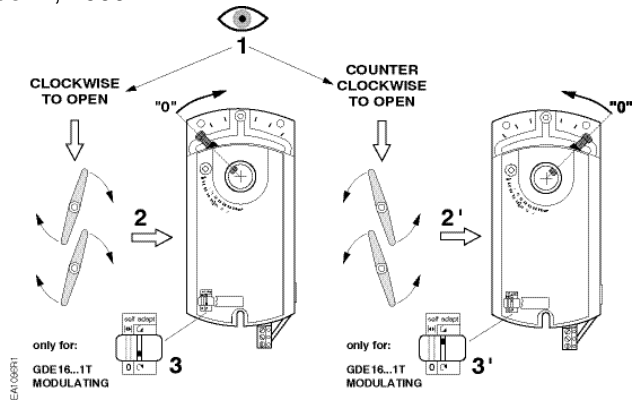

Figure 2. Setting the Direction of Rotation.
1. Determine whether the damper blades will rotate clockwise or counterclockwise to open. See Figure 2.
1. To access the DIP switches, raise the tab on the lower left side of the actuator. See Figure 2. The factory setting is clockwise (middle switch), with a direct-acting feedback signal (right switch).
1. To use the entire 0 to 10V input signal to control the adjusted range, raise the tab located on the lower left-hand side of the actuator and locate the DIP switches. See Figure 2.
2. Set the self-adapt DIP switch to (ON).